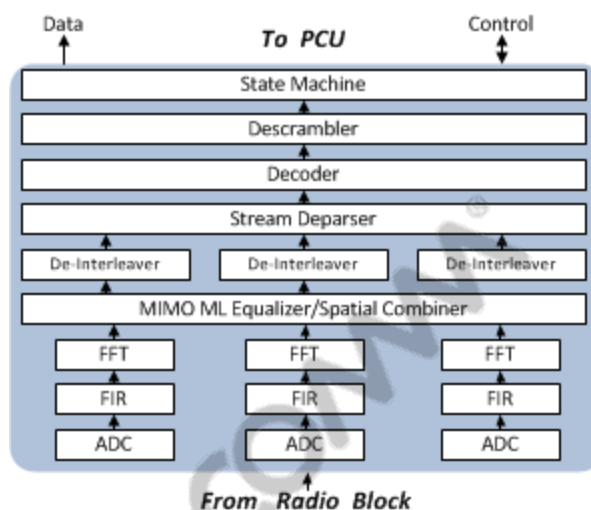

Figure 6-2 Digital PHY 802.11n Rx
Figure 6-2 shows the Rx path digital PHY 802.11n (MIMO mode) block diagram.
The receiver inverts the transmitter's steps, performing a Fast Fourier Transform (FFT), extracting bits from received constellations, de-interleaving, accounting for puncturing, decoding, and descrambling. The Rx block shows 3x3 MIMO configuration. Figure 6-2 shows a frequency-domain Maximum Likelihood (ML) equalizer handling degradation due to multi-path.